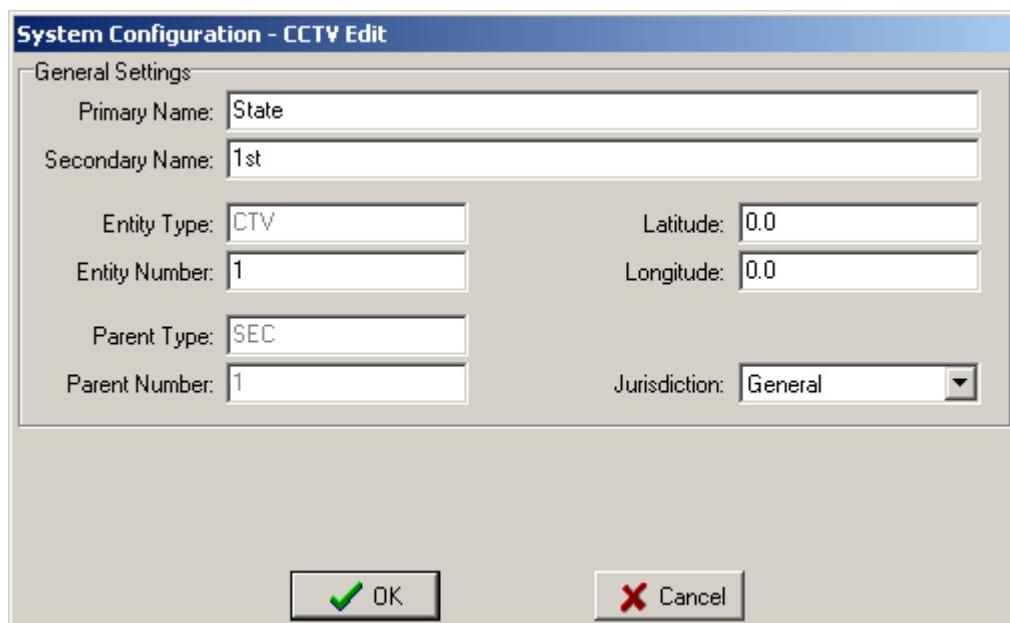

Figure 4-10: Defining a CCTV
2. Select ‘CTV’ from the Object Types pull down list. Figure 4-10 will then appear.